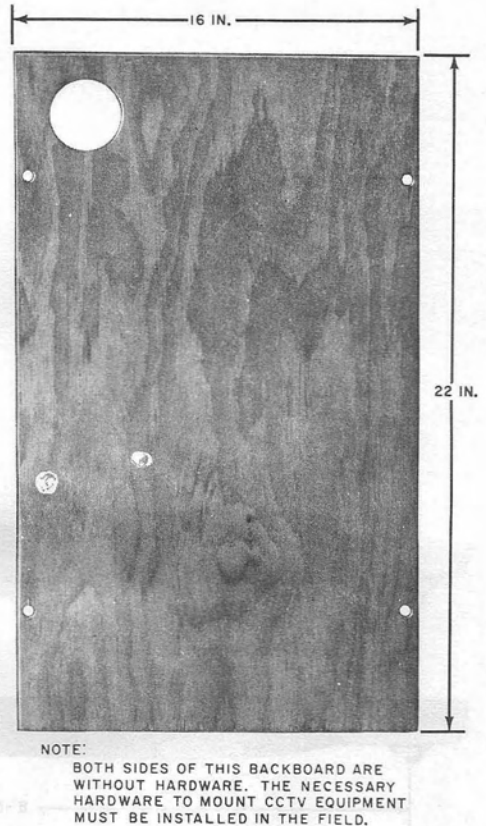
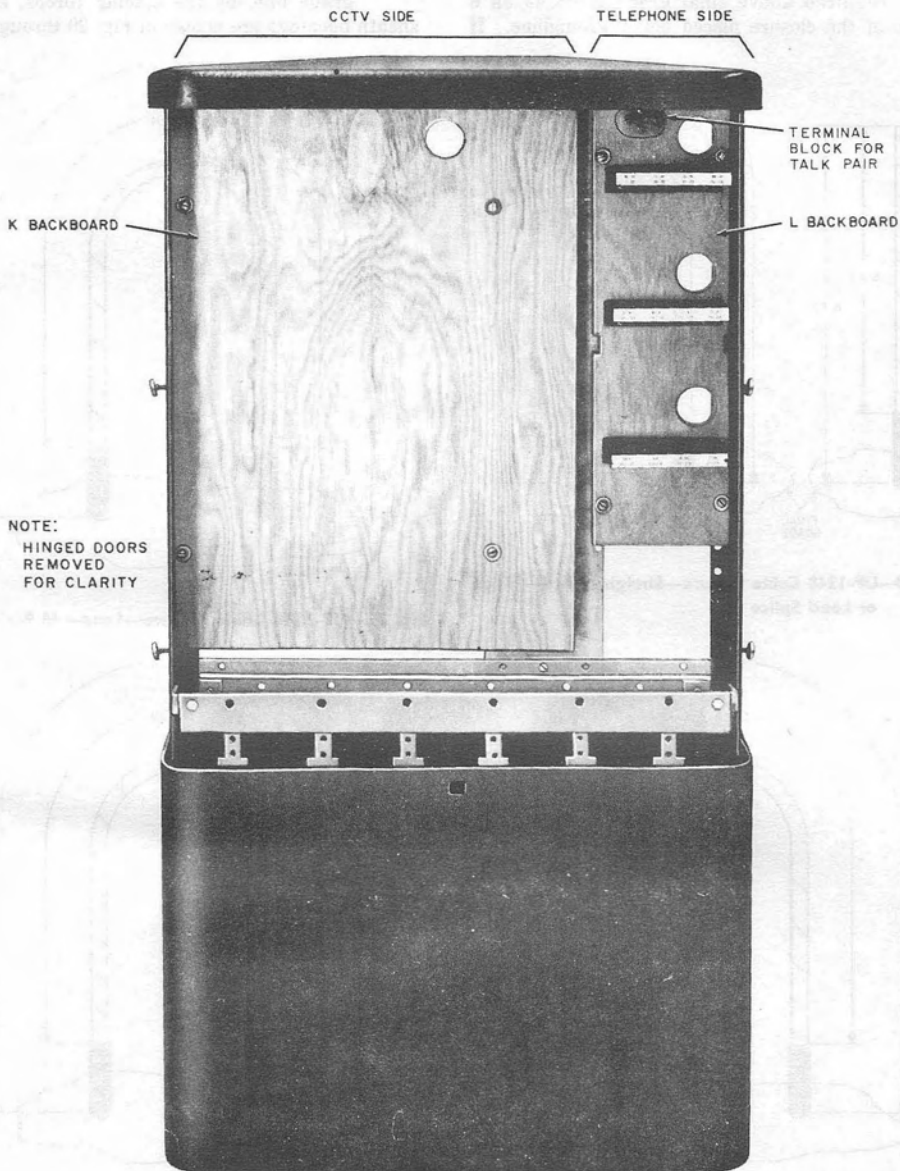

Fig. 12—K Backboard
Fig. 19—UP-1248 Cable Closure Equipped with K and L Backboard
(e) *K Backboard (Fig. 12)* is used for joint CCTV-Telephone installations. The backboard is made of plywood with both sides free of hardware for accommodating CCTV apparatus. The *K Backboard* may be used in conjunction with the *L Backboard* when mounted adjacent to it as shown in Fig. 19.
4.05 When the K and L Backboard are jointly used (Fig. 19), the K Backboard is used for mounting CCTV equipment. The L Backboard will